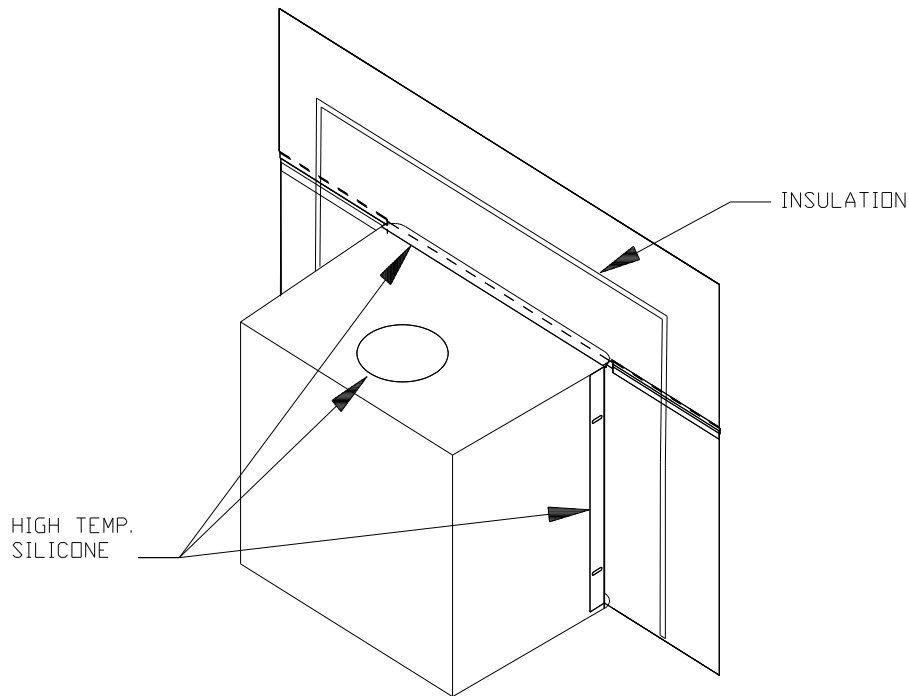

Figure 3
12. Using insulation provided, peel and stick to back of panels overlapping fireplace dimensions by 1" on each side and top. (See Figure 3.)
13. Next using high heat silicone or furnace cement run heavy bead of caulking around where panels meet the stove. (See Figure 3.)